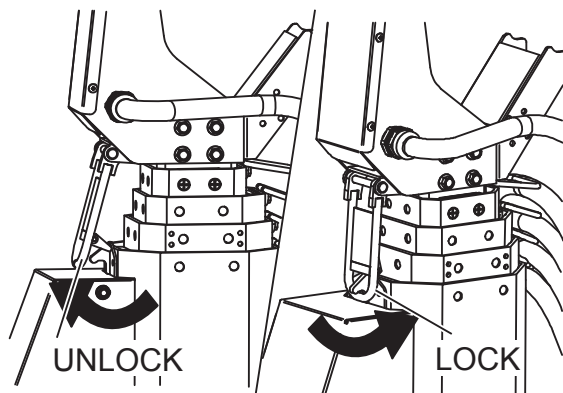

Figure 13. Unlocking the Shackle
1. Unlock the shackle (Figure 13).